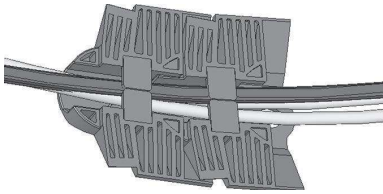

Figure 2: Push wires through rubber tabs into the cable channel. Ensure wires have room to move freely.
- Press wires through the rubber tabs on the bottom such that they fit loosely in the cable channel as shown in Figure 2